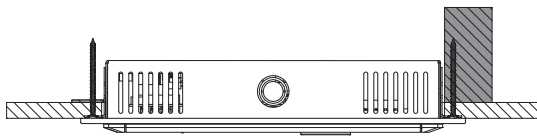

Fig 13
1. Cut a hole in the wall (8.27"H x 10.83" W). Make sure the hole has at least 2" of rear clearance. **Note:** Aligning one side over a stud is the easiest and most secure method. See Figure 13.